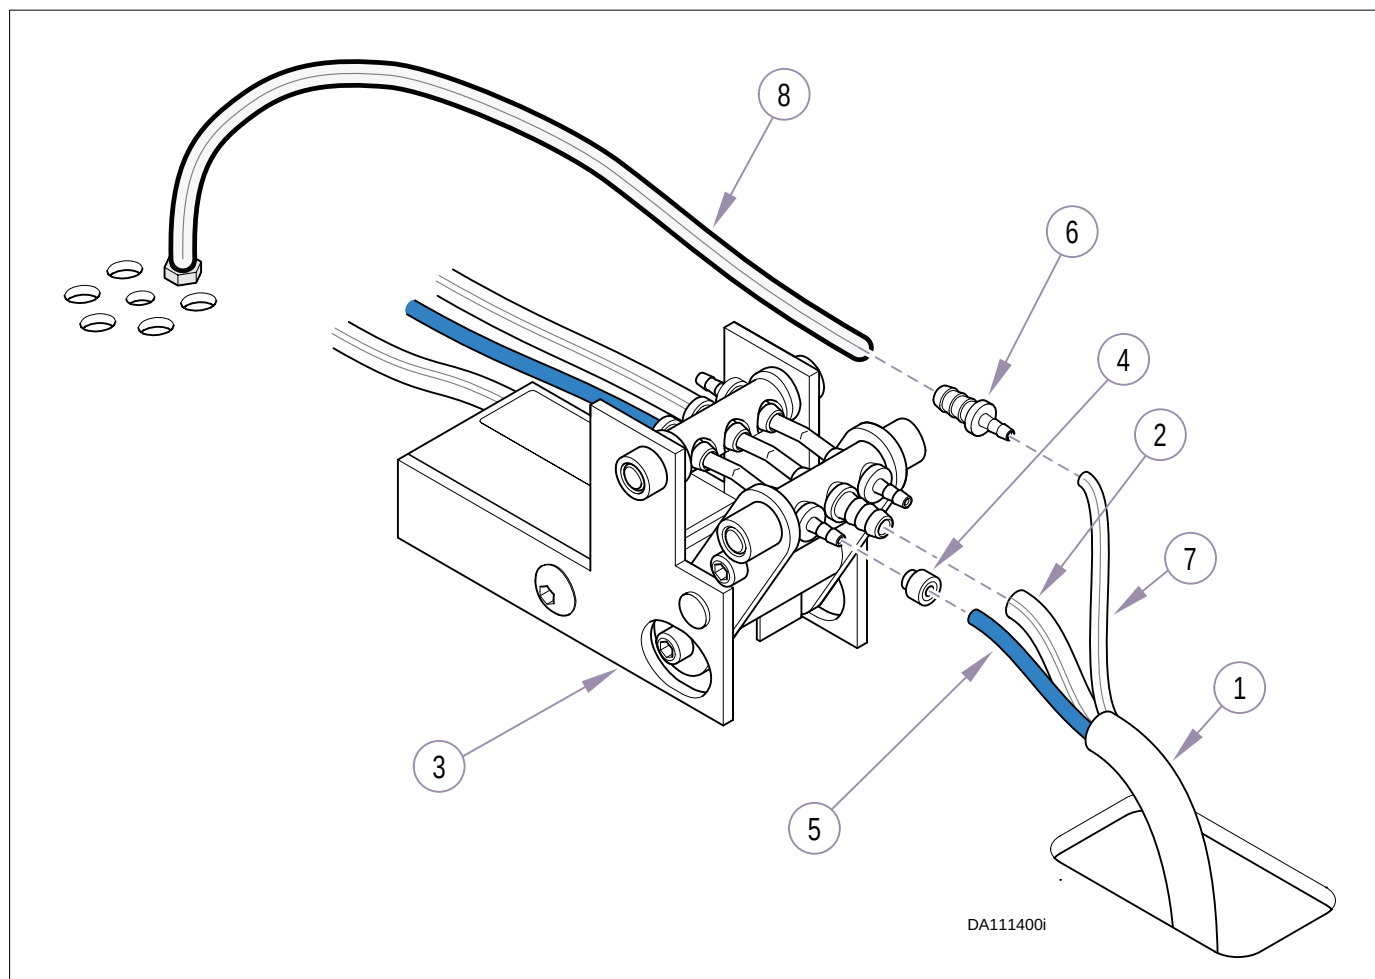

Figure 4-18. Lares® Handpiece Tubing Installation
- (1) Route Lares® tubing (1, Figure 4-18) up thru hole in delivery unit; then connect 1/4" clear tube (2) to kink valve (3) as shown.
- (2) Install uni-clamp (4) onto 1/8" blue tube (5) and connect to kink valve (3) as shown.
- (3) Install a 1/8" to 1/4" barb fitting (6) into 1/8" clear tube (7); then connect to 1/4" clear exhaust tube (8).